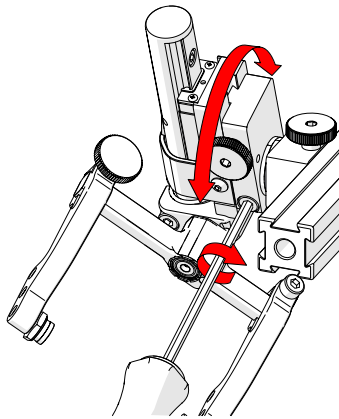

Fig. 76 - Rotate to position
3. Rotate the main body of the probe holder until it is at the desired angle (Fig. 76).
4. Tighten the longitudinal adjustment screw (Fig. 76).